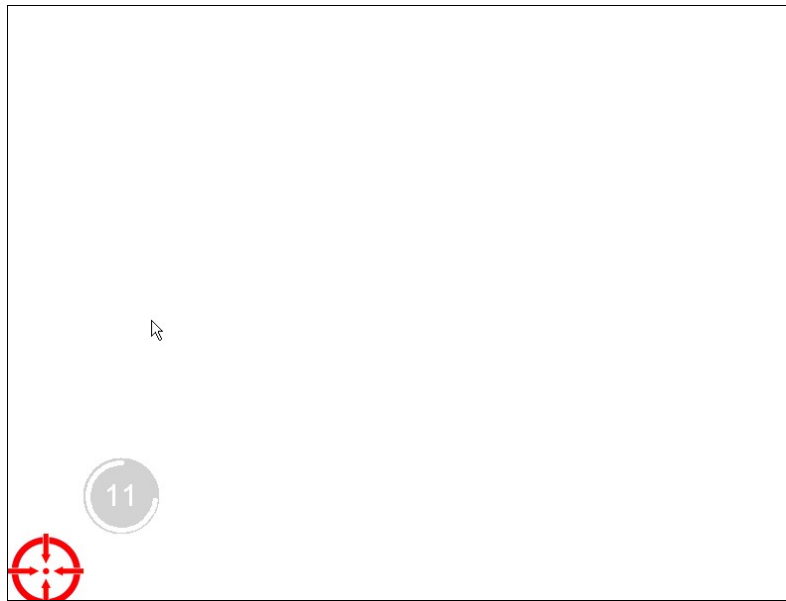

Figure 6-46: Calibration Window
Step 14: The calibration window in **Figure 6-46** appears. The user is asked to touch the screen at four specified points. Follow the screen guide to touch and hold each blinking symbol in the calibration window until it shows “OK”.